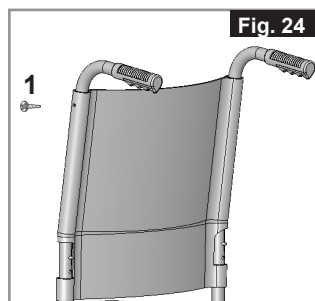

Fig. 24
The height of the backrest can be set to 2 different positions (410mm and 435mm). Release and remove the bolts (1), and push the backrest sling to the desired position. Tighten up the bolts again (Fig. 24).